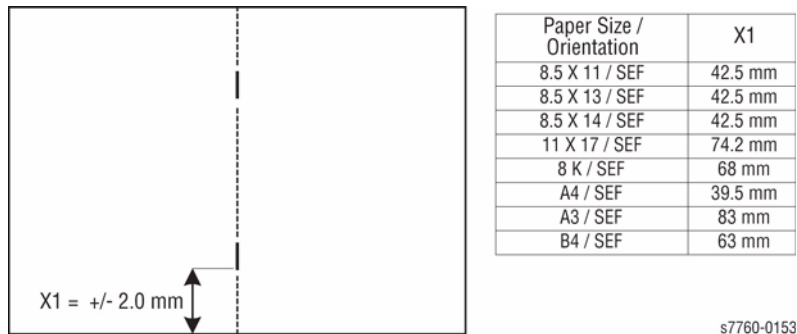

Figure 1 Staple Specification
6. Measure X1 and verify against specification in Figure 1.